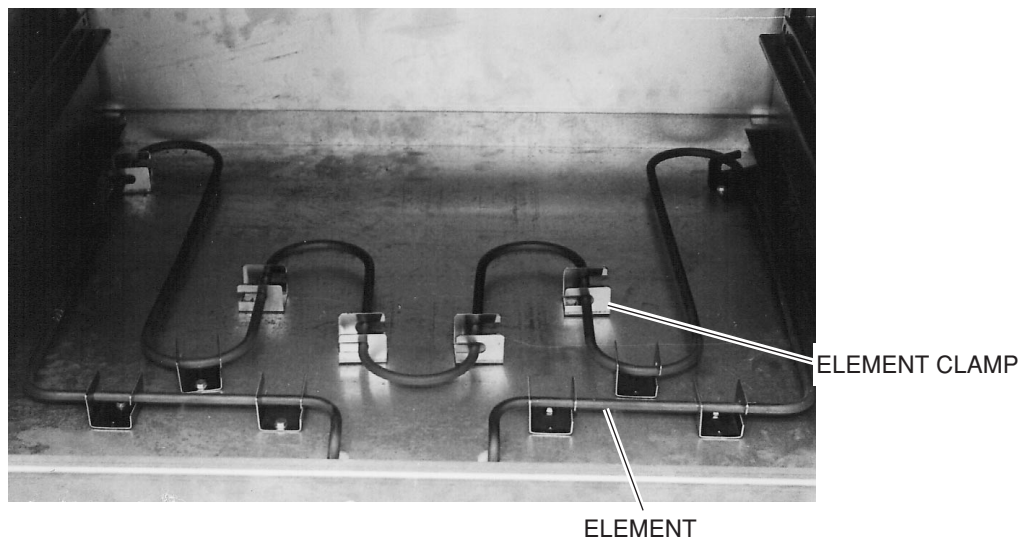

Fig. 40
6. From inside the oven cavity, slip the bottom element out of the mounting clamps. Pull the element through the oven burner box and cavity area, out of the appliance. (Fig. 40)